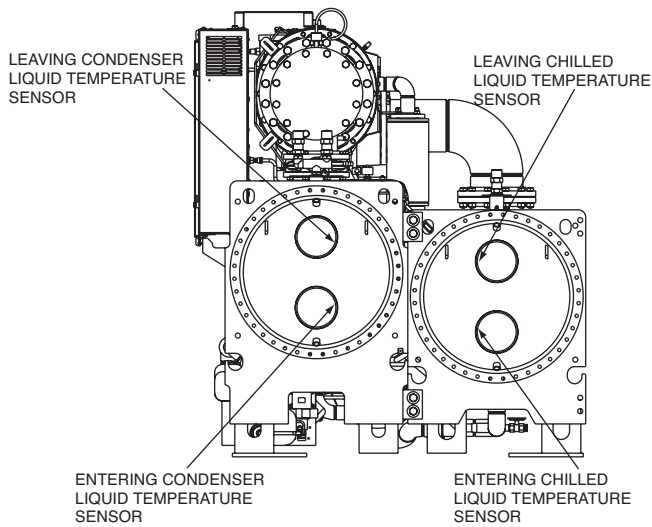

Fig. 21 — Chiller End View (Q,R Compressors Only)
- b. Entering and leaving chiller liquid temperature sensors. See Fig. 21.